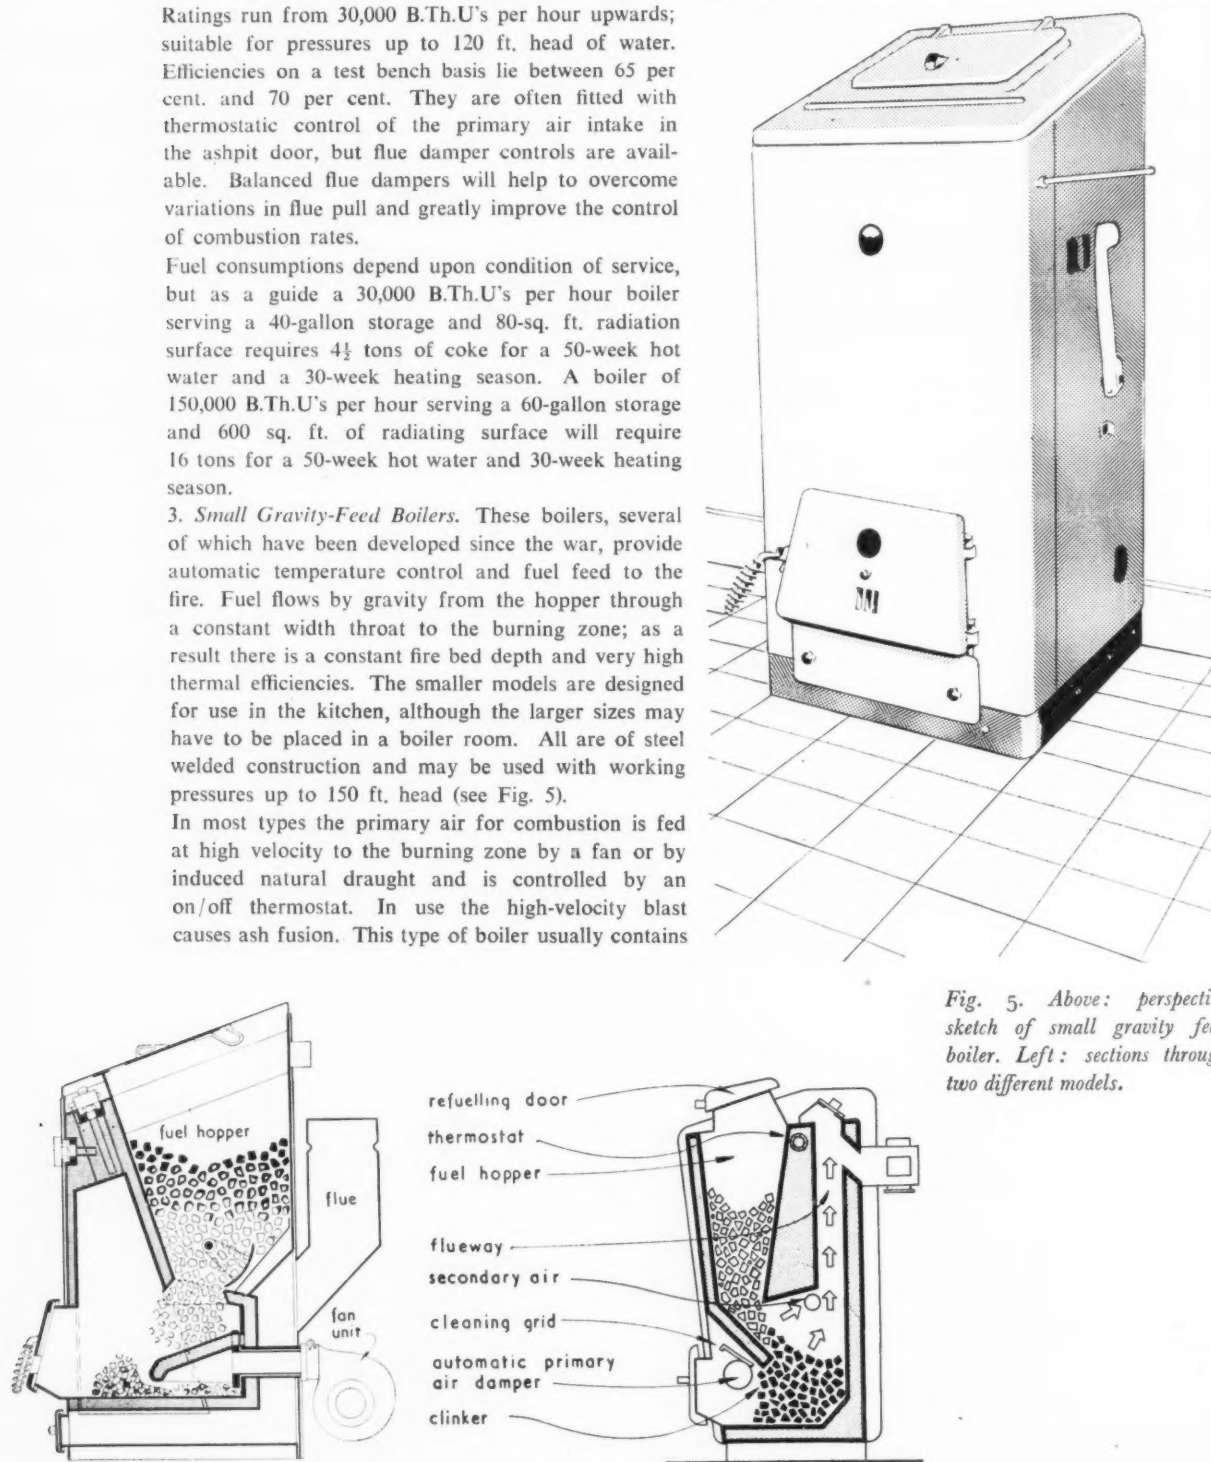

Fig. 5. Above: perspective sketch of small gravity feed boiler. Left: sections through two different models.
3. *Small Gravity-Feed Boilers.* These boilers, several of which have been developed since the war, provide automatic temperature control and fuel feed to the fire. Fuel flows by gravity from the hopper through a constant width throat to the burning zone; as a result there is a constant fire bed depth and very high thermal efficiencies. The smaller models are designed for use in the kitchen, although the larger sizes may have to be placed in a boiler room. All are of steel welded construction and may be used with working pressures up to 150 ft. head (see Fig. 5).